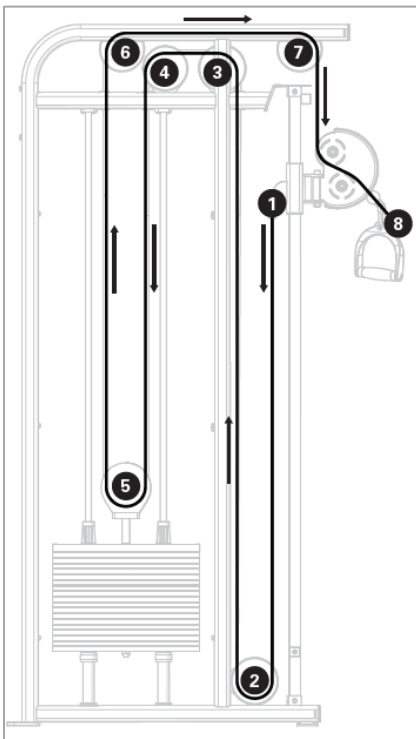

Figure 1
2. Starting at #1 (Figure 1), install the cable bolt to the adjustable pulley. Do not tighten the bolt jam nut.
3. Route the cable as shown (Figure 1) ensuring that the cable is sitting on each pulley and not routed over cable keepers.